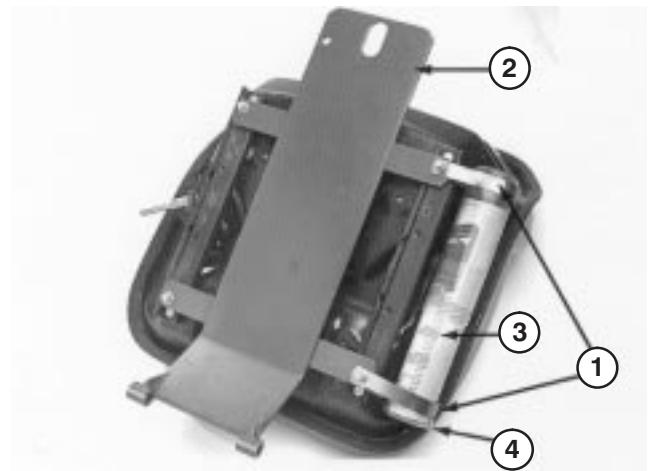

Figure 4
5. Loosely secure (2) R-clamps to right side of seat bottom with (2) capscrews and flatwashers supplied in kit (Fig. 4). Install manual tube into R-clamps and tighten capscrews (Fig. 4).